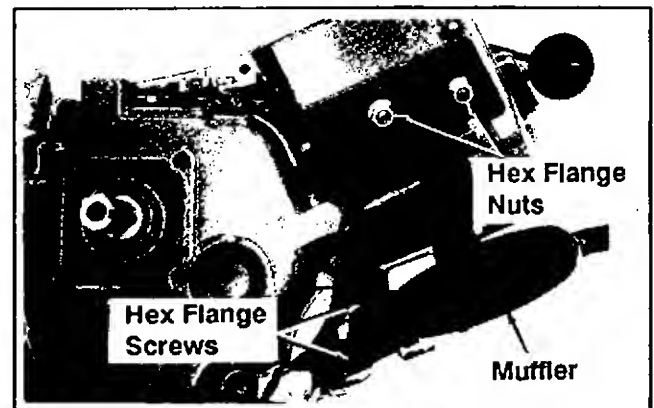

Figure 11-27. Installing Muffler On CH5.
1. Install new gasket and muffler on exhaust outlet flange. See Figure 11-27 for CH5.